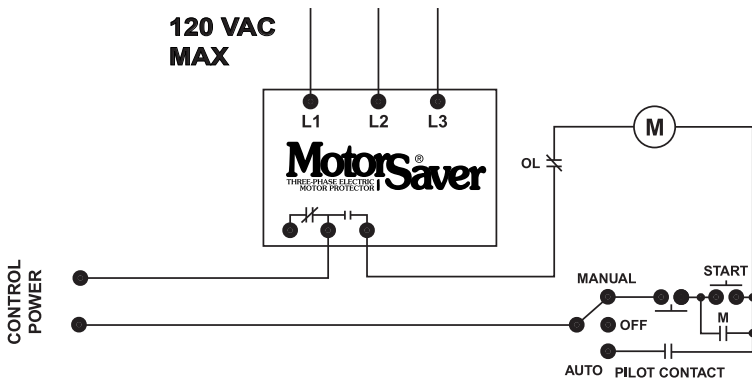

Figure No.1: Typical Motor Control Wiring Diagram
2. The MotorSaver® should be connected to the secondary side of a 120VAC, 5VA potential transformer. Connect the 120V three-phase secondary to L1, L2, and L3 on the MotorSaver® terminal strip (see Figure No. 1).
3. Connect the output relay to the circuitry to be controlled (see Figure No. 1 and Figure No. 2).